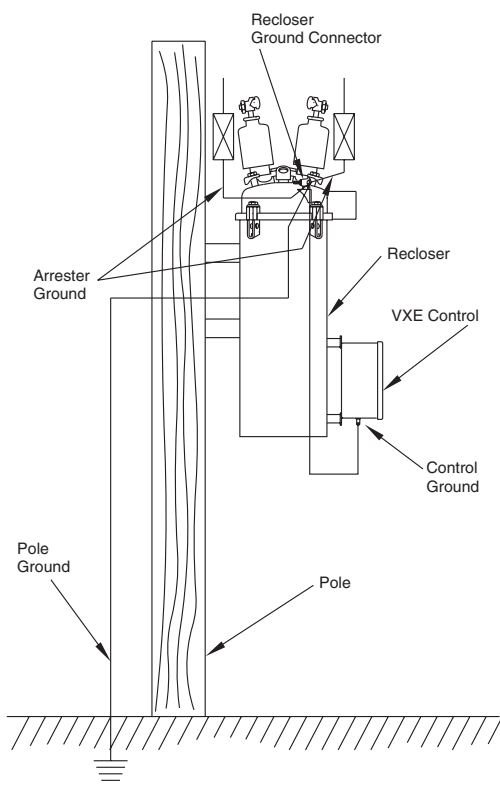

Figure 9. Recommended grounding method for VXE recloser and control.
7. Ground the recloser and the control. (Refer to Figure 9) Make ground connections to the recloser head ground connector. It will accommodate two no. 10 through no. 2 stranded conductors. Ground the control using the ground connector provided at the bottom of the electronic control cabinet for connecting a no. 14 through no. 4 stranded grounding cable to a suitable ground. Make ground connections in accordance with approved utility standards.